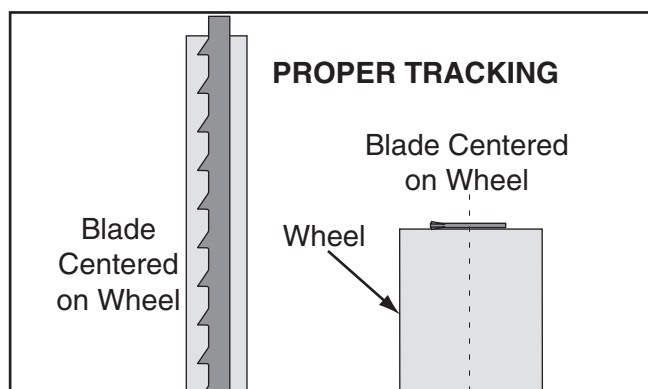

Figure 17. Blade centered on crown of wheel.
Bandsaw wheels are either flat or crowned and both shapes track differently. The G0803 has crowned wheels. As the wheels spin, a properly tracking blade naturally tracks at the center of the wheel (see **Figure 17**).
6. Rotate upper wheel by hand several times and watch how blade rides on wheel (see **Figure 17** on **Page 17** for an illustration of this concept).